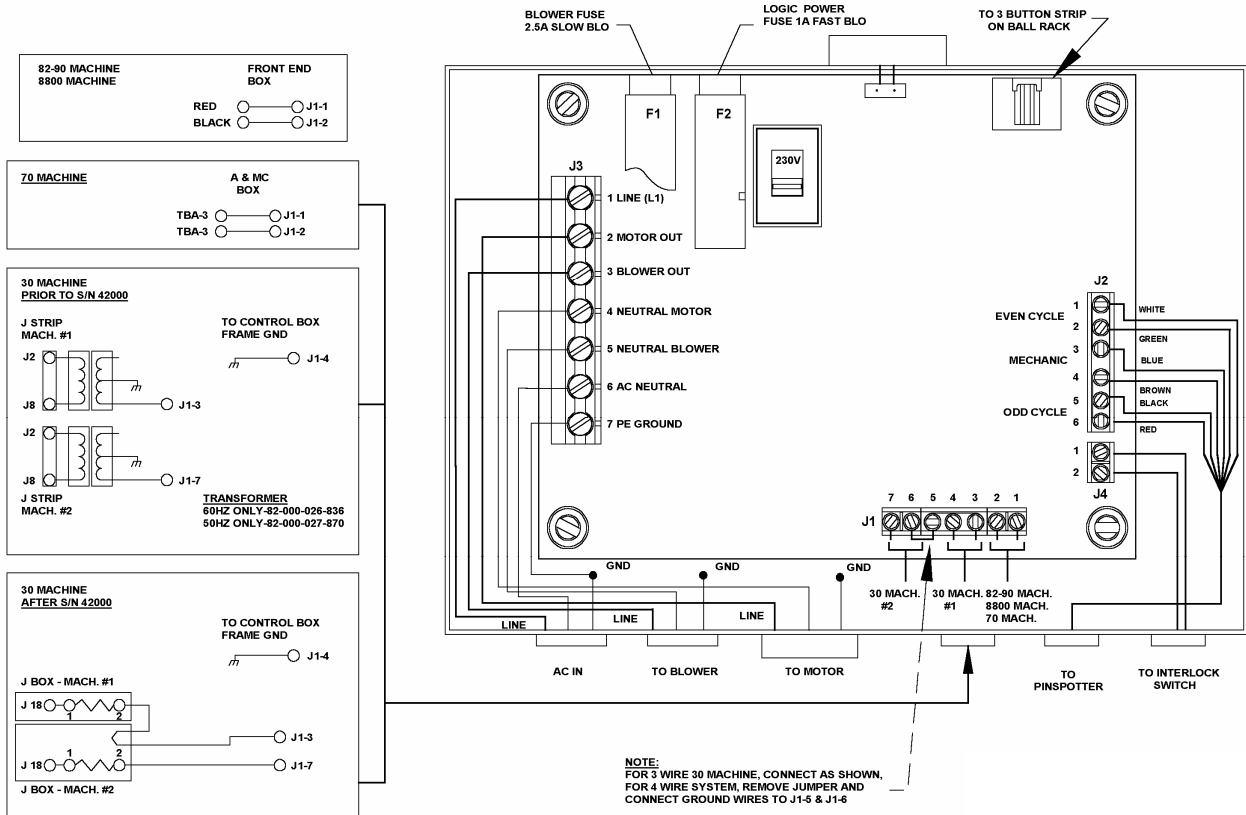

Figure 11, Electrical Connections
5. Attach the power supply cable's flexible conduit to the control box at the "AC IN" location shown in Figure 11.
8. Connect the blue wire (neutral) to terminal #6 on junction block **J3** and the brown wire (line) to terminal #1 on **J3** (see Figure 11).
9. Cut off the three prong plug for the blower motor power cord. Remove approximately 8 inches of the outer protective sheath from the end of the blower power cord. Route this cable into the control box (see Figure 11). Tighten the cable clamp to secure the cable to the box. Strip approximately 3/8-inch of insulation from the ends of the black, white, and green blower wires.
12. Depending on the specific pinspotters in your bowling center, connect the pinspotter's control wires to junction block **J1** as shown in Figure 11.